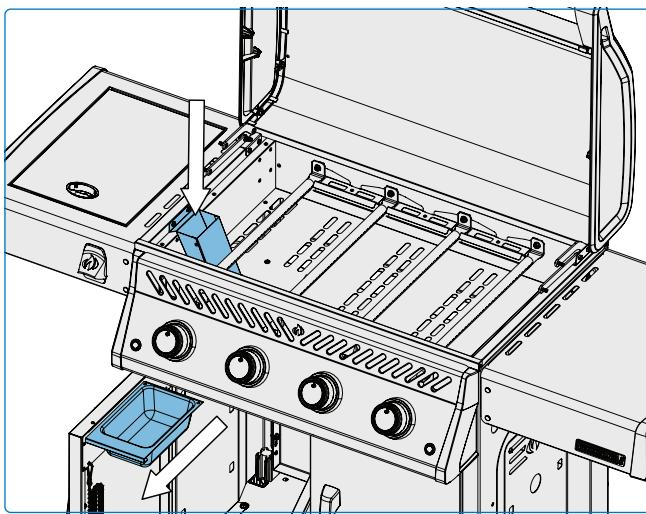

Fig. 12
1. Once the appliance has cooled completely, carefully remove the drip tray straight out from the appliance cart without tilting. (Fig. 12).